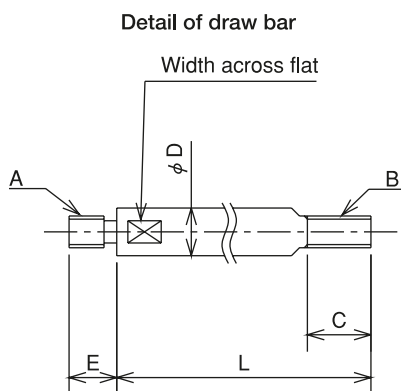

Fig. 10
The dimension L in Fig.10 is determined from the distance M between the cylinder adapter and the spindle.
- Keep the dimension B (Max.) in Fig. 10 for the draw bar and a material with the tensile strength 380MPa (38kgf/mm²) or more must be used.